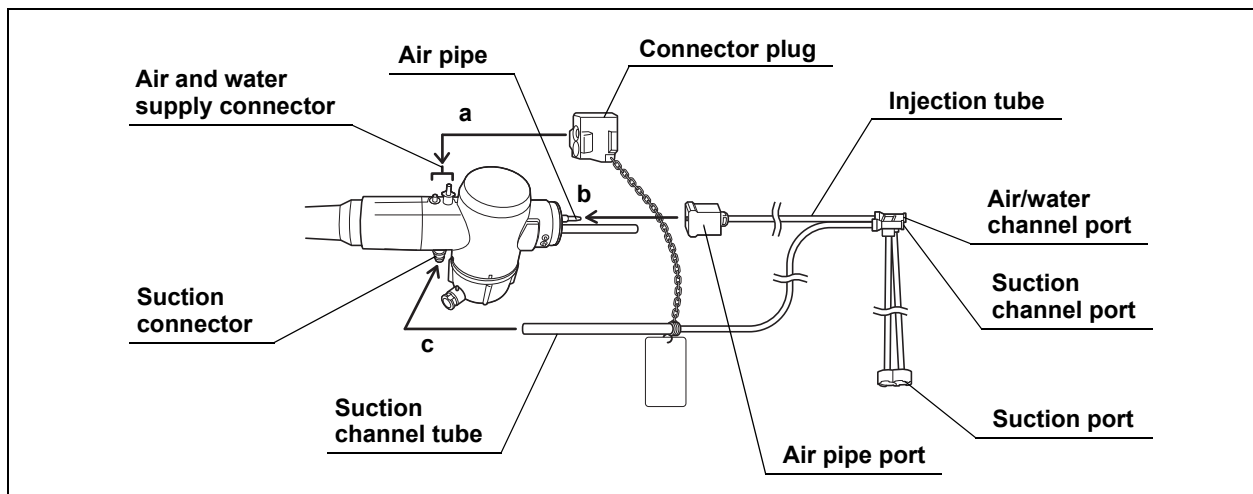

Figure 5.36
3. Immerse the suction port of the injection tube (MH-946) in the water. (See Figure 5.36)